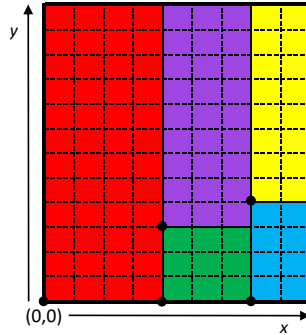

Figure 2: Graphical representation of the solution.
which says for instance that the left-bottom corner of the 3×3 piece is at $(4, 0)$. The solution can be represented graphically as in Figure 2.
The purpose of this project is to solve PWP with (i) Constraint Programming (CP), and (ii) propositional SATisfiability (SAT) or its extension to Satisfiability Modulo Theories (SMT), using the MiniZinc CP solver and the Z3 SAT/SMT solver. A suite of problem instances are provided in the format specified in Section 2. You will decide yourselves the problem constraints around the problem description, and build the CP model and the SAT/SMT encoding accordingly. For correctness check, you are advised to visualize the solutions as in Figure 2. This can be done manually by hand, or automatically by a program which takes as input the solution of the problem in the format described in Section 2.